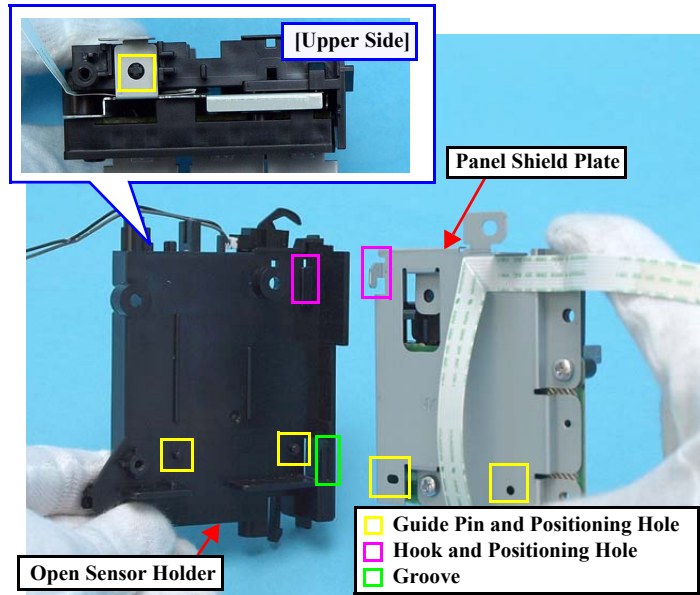

Figure 4-124. Installing the Panel Unit
- When installing the Panel Shield Plate to the Open Sensor Holder, match the hook and guide pins with the positioning holes shown in Fig.4-124 and insert the Panel Shield Plate into the groove of the Open Sensor Holder to secure the Panel Shield Plate.